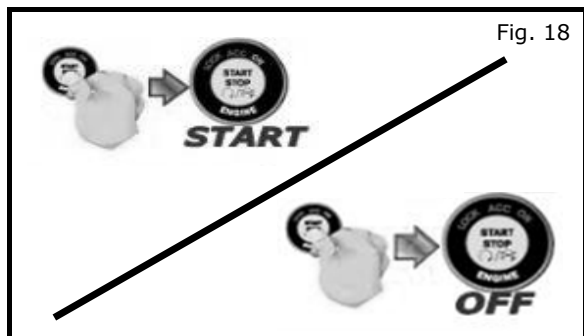

Fig. 18
- a) Press and hold push button Ignition switch while depressing brake, to confirm vehicle starts as shown in Fig. 18.
- b) Press push button Ignition switch and turn ignition switch to OFF position as shown in Fig. 18.